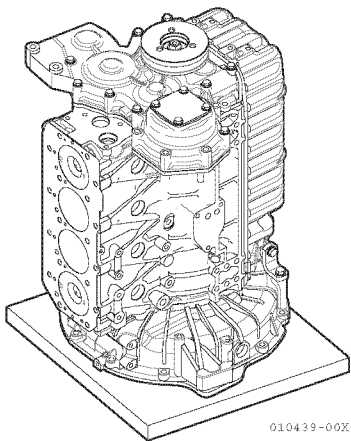

Figure 5-44
- Place a wood block of appropriate size on the floor, and stand the engine on the flywheel housing (**Figure 5-44**).